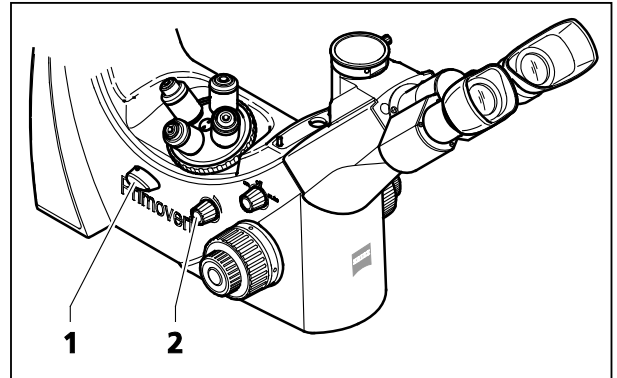

Fig. 35 Adjusting reflected-light fluorescence
- Turn the transmitted light / reflected light changeover switch (Fig. 35/1) upward to the reflected-light position (Fluorescence).
- Switch on the reflected-light illuminator using the rotary knob (Fig. 35/2) and adjust the desired illumination intensity.